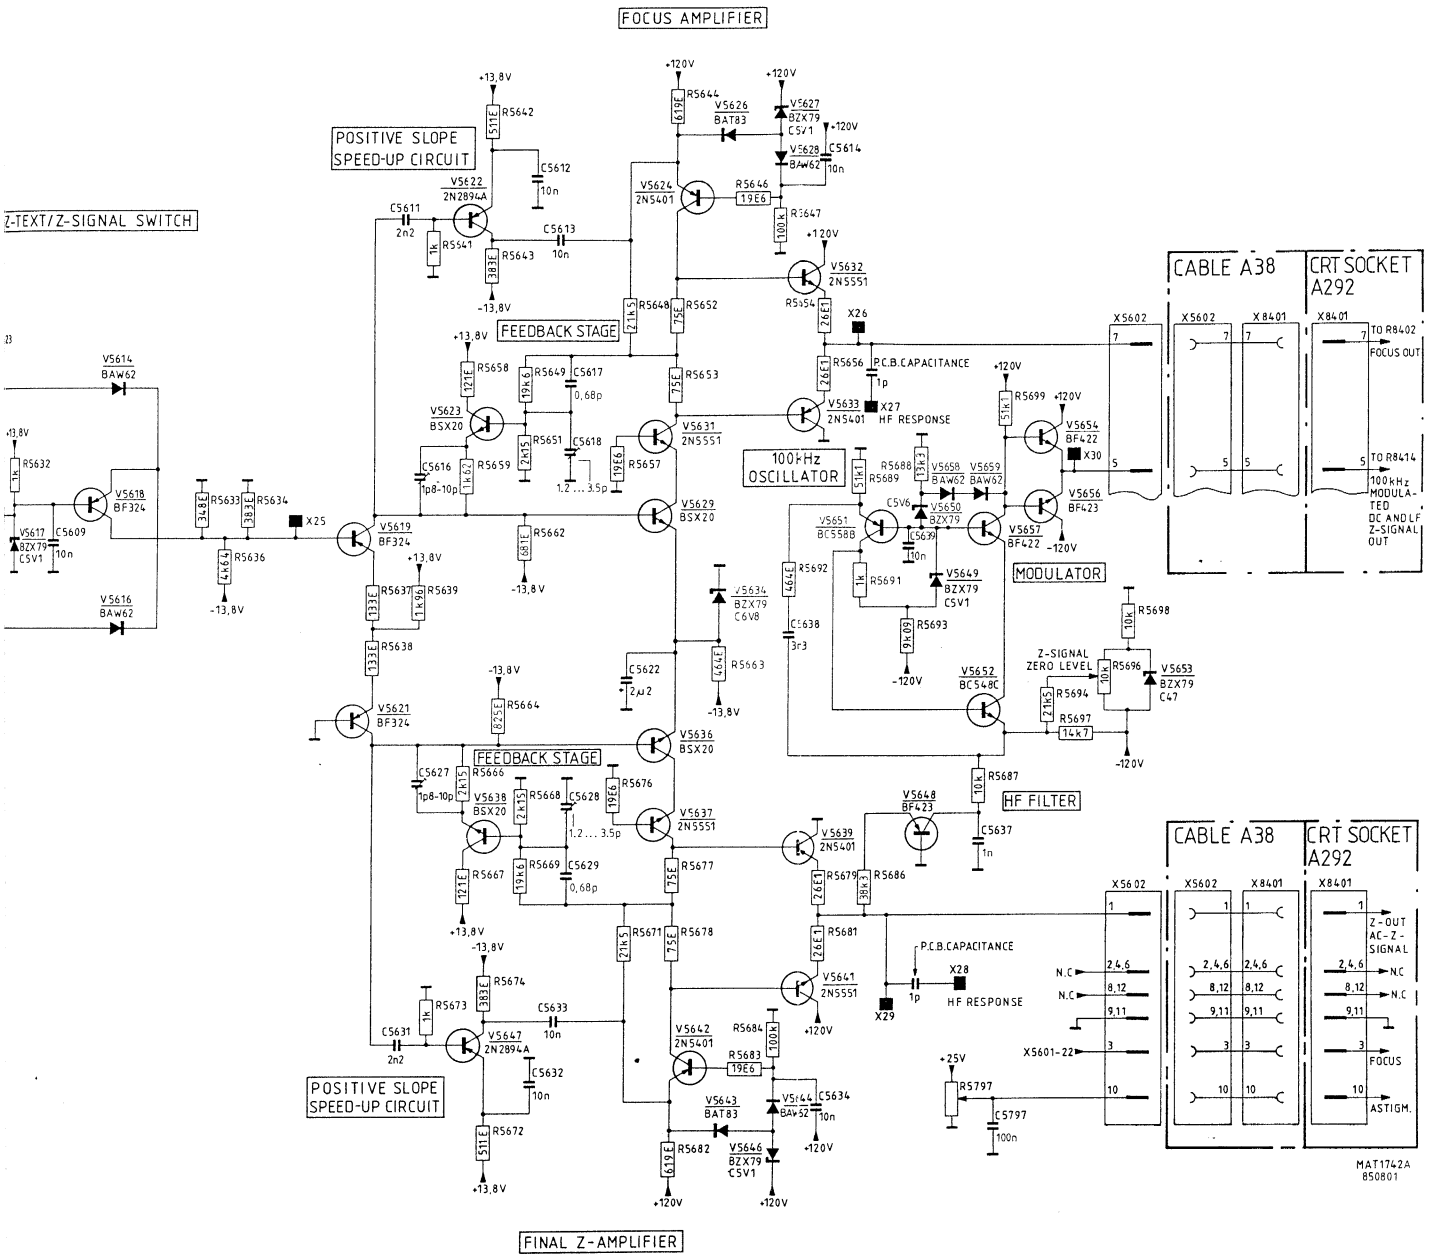

Fig.16.2. Final X/Z amplifier, circuit diagram of intensity and focusing part.
16.1. CIRCUIT DESCRIPTION OF INTENSITY AND FOCUSING (See fig.16.2.)